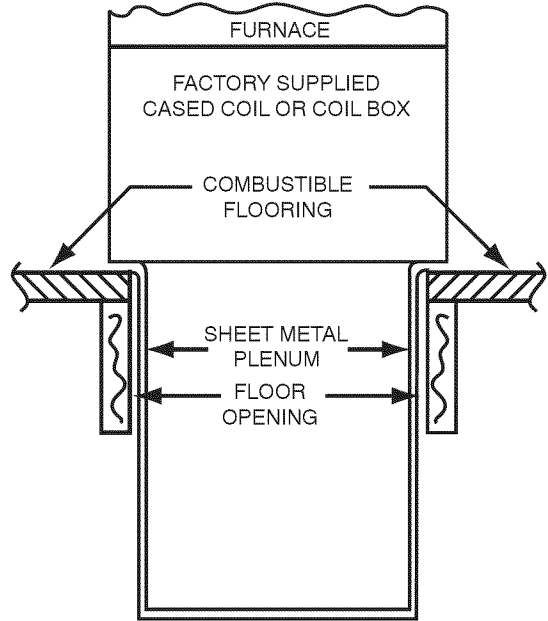

Fig. 24 - Furnace, Plenum, and Coil Assembly or Coil Box Installed on a Combustible Floor A07586
5. If coil assembly is used, install as shown in Fig. 24.